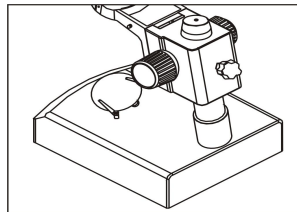

Fig. 1
1) Press the glass stage on the sunken place then the other side of the glass stage will be lifted.(Fig.1)